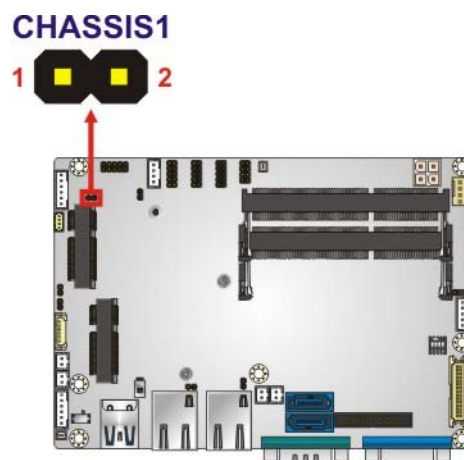

Figure 3-7: Chassis Intrusion Connector Location
- CN Location:** See Figure 3-7